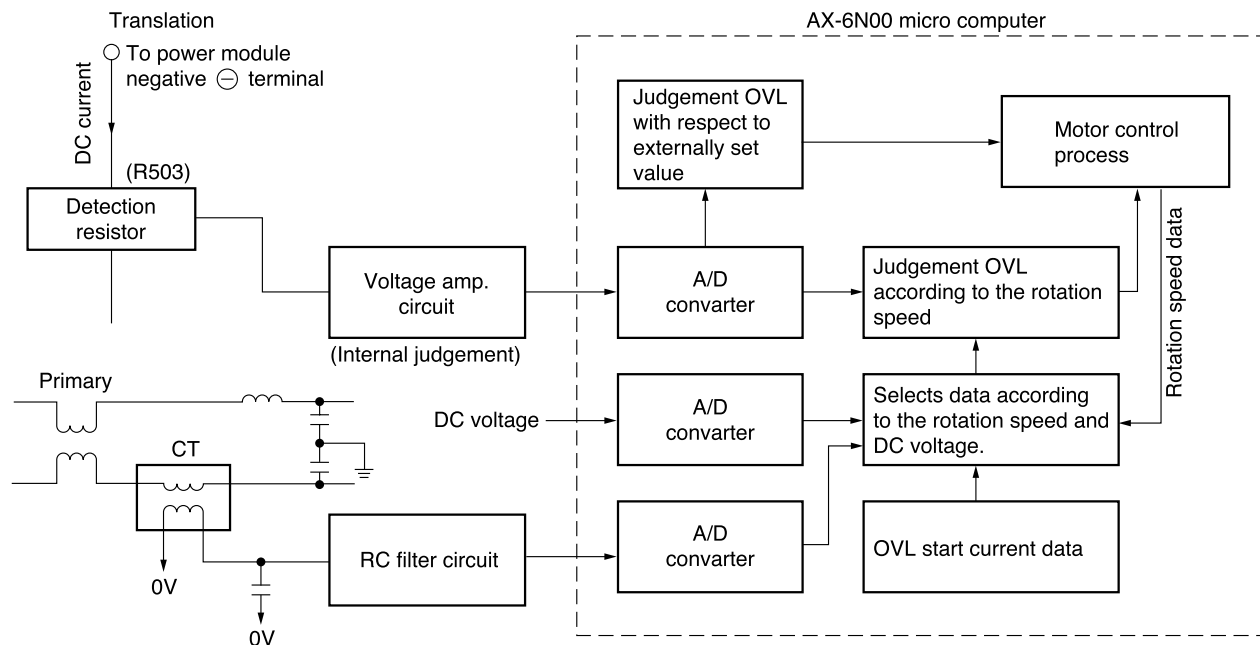
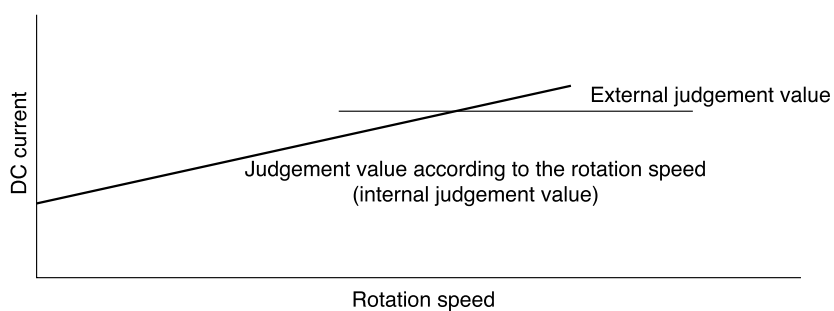

Fig. 5-1 Overload Control System Configuration
Fig. 5-2
- Fig. 5-1 shows the overload control system configuration and Fig. 5-2 is a characteristic diagram of overload judgement values. There are two judgement methods-external judgement which compares the externally set value with the DC current value regardless of the rotation speed and internal judgement which compares the set value that according to the rotation speed programmed in the micro computer software with the DC current value.